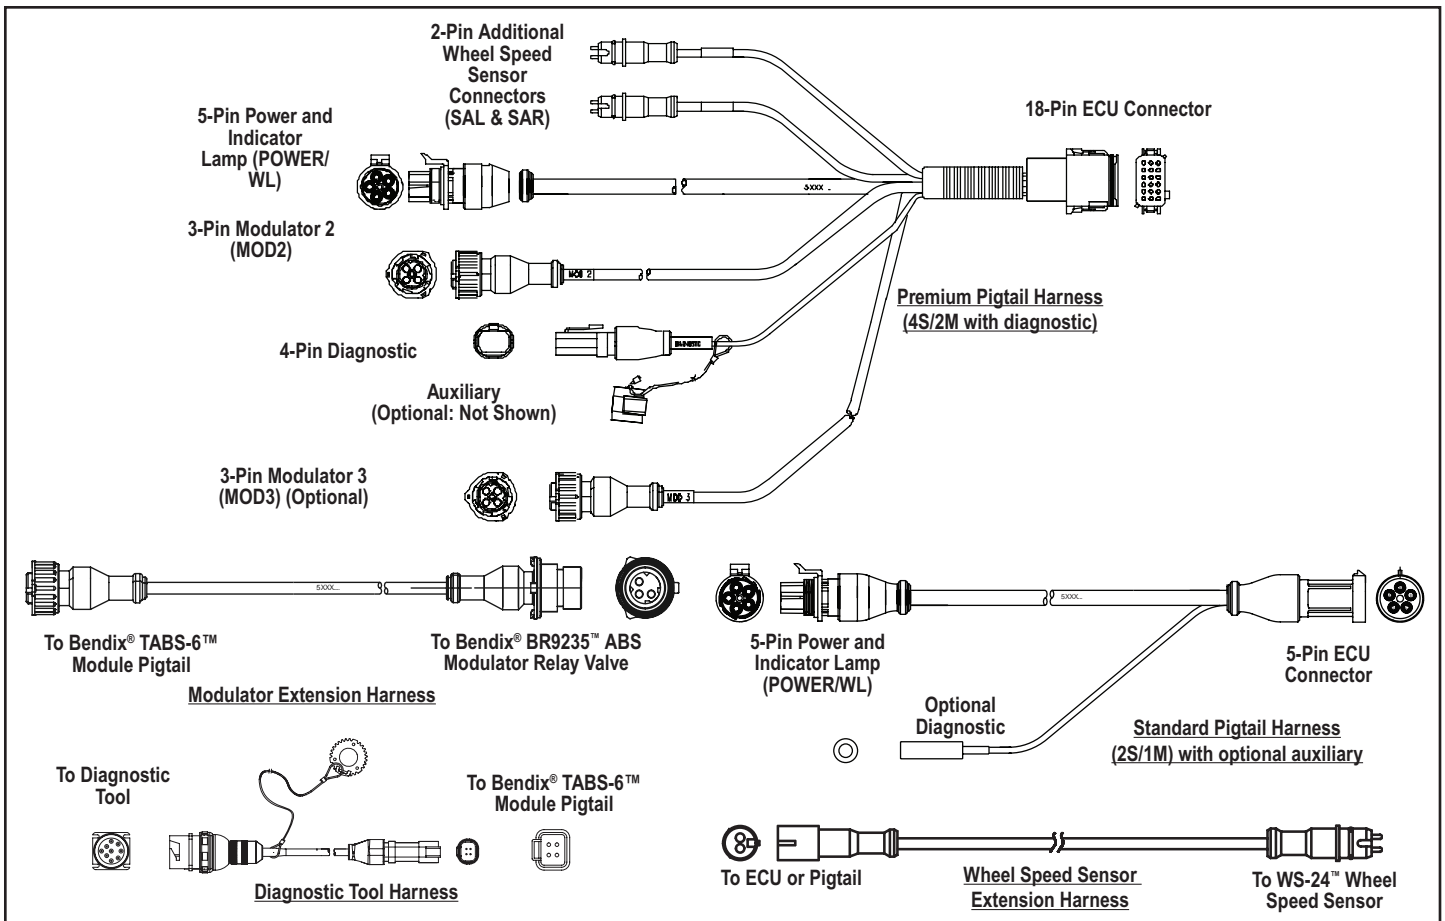

FIGURE 23 - EXAMPLES OF PIGTAIL WIRE HARNESSES AVAILABLE
- Pigtail wiring harness(es) as needed. See Figure 23.